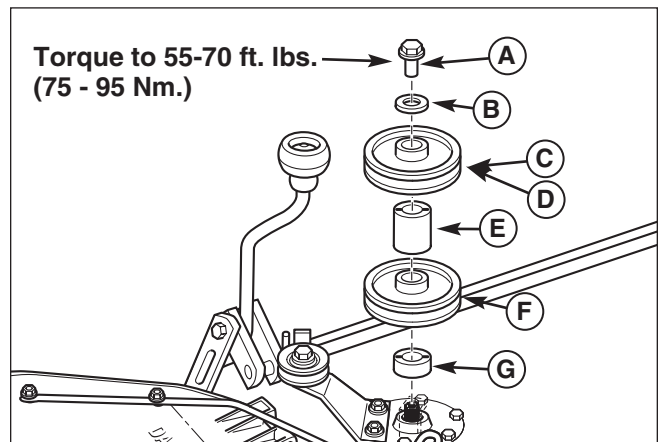

Figure 12. Install Turbo Drive Pulley
3. Install new spacer (E, Figure 12), turbo drive pulley (C, 5" for 38" mowers or D, 4-5/16 for 44" & 50" mowers), and spring washer (B) align the notches in the pulleys with the ridges in the spacers. Torque the sleeve nut to 55-70 ft. lbs.